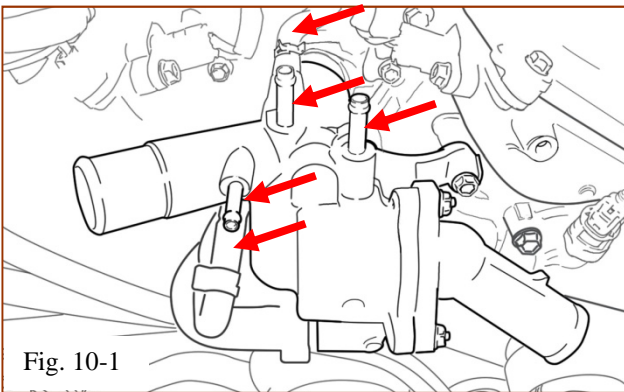

Fig. 10-1
- (a) Remove 2 throttle body bypass hoses, 2 small bypass hoses, and the larger bypass hose that are attached to the thermostat water manifold (Fig. 10-1).
- (1) Draw a diagram showing where all the hoses go.
- (2) Some vehicles may also have 2 oil cooler hoses to remove.